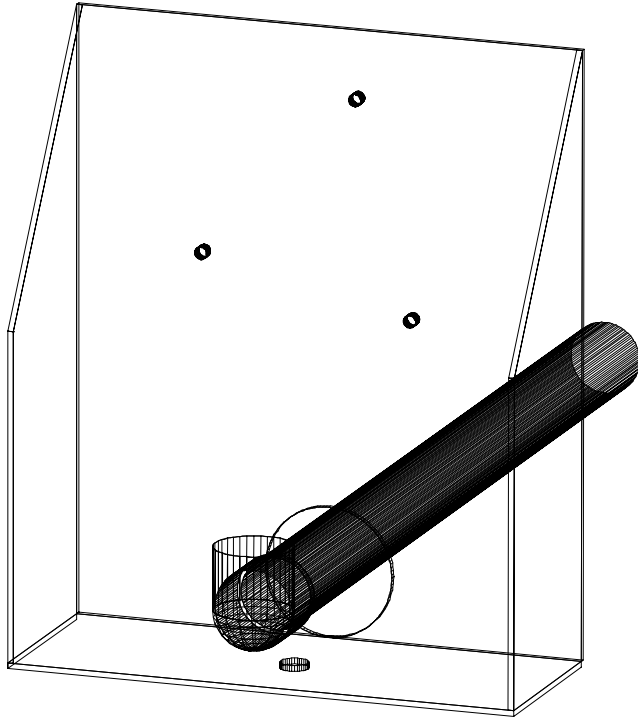

Figure 9 Horn Mounting Bracket
5. Push the end of the conduit with the right angle male conduit connector through the 2" diameter hole in mounting bracket as seen in figure 9.